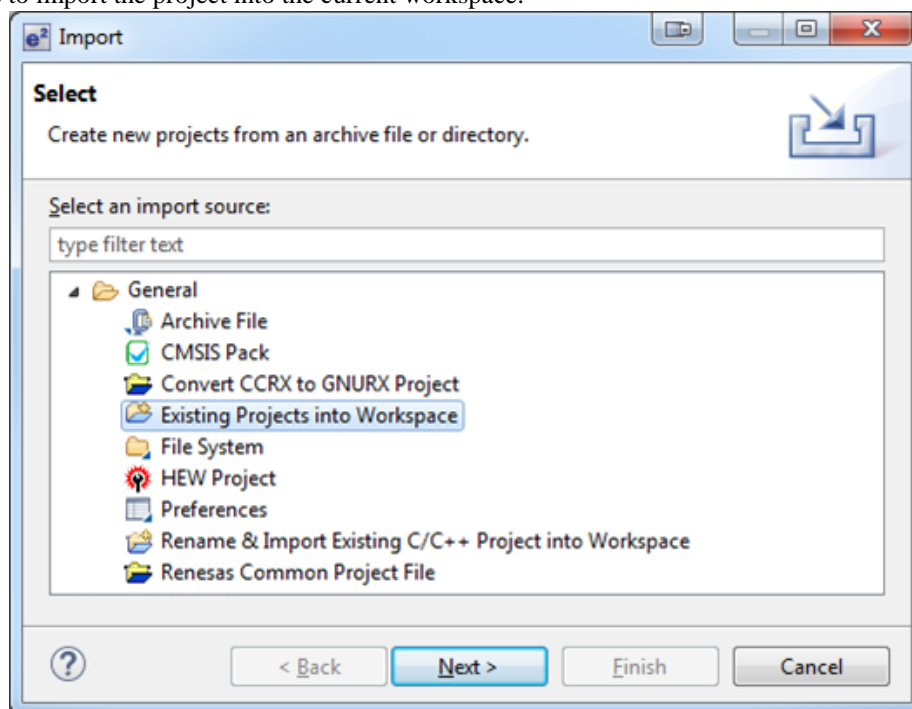

Figure 2.6 Project Import dialog with “Existing Projects into Workspace” option selected
5. In the Import dialog box shown in Figure 2.6, select the **General** option, and then select **Existing Projects into Workspace** to import the project into the current workspace.